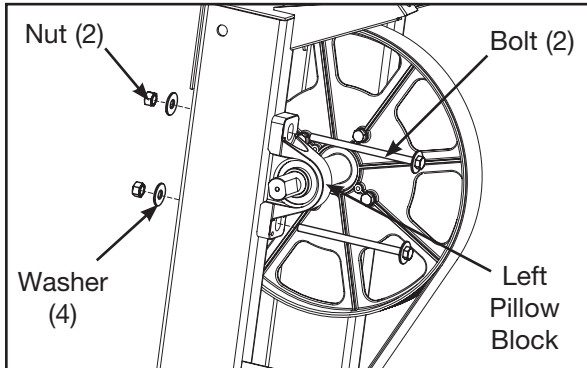

Figure 9
- A. Using a 9/16" socket wrench and a 9/16" open wrench remove the two bolts, four washers and two nuts from the left pillow block. See Figure 9.
- B. Using a 9/16" socket wrench and a 9/16" open wrench, secure the two bolts, four washers and two nuts (removed in step 10A) to the left pillow block. See Figure 9.